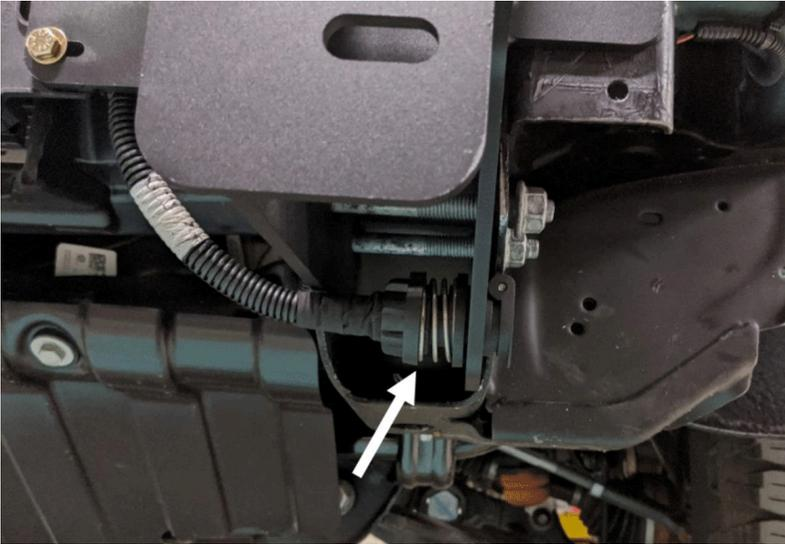

Figure 29
25. Reverse the process in step 15 to install the heater plug into the driver side mounting bracket. Reconnect the heater plug wiring harness before mounting the bumper. (Figure 29)